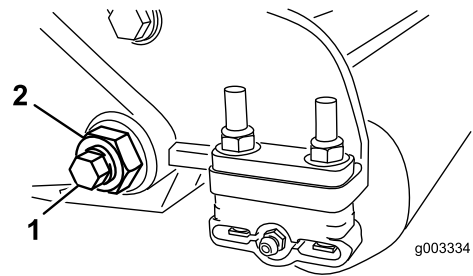
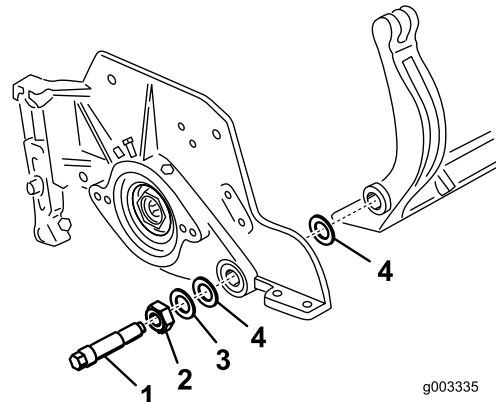

Figure 30
Figure 31
- On each side of the machine, loosen the locknut securing the bedbar bolt (Figure 30).
- Remove each bedbar bolt, allowing the bedbar to be pulled downward and removed from machine bolt (Figure 30). Account for 2 nylon washers and 1 stamped steel washer on each end of the bedbar (Figure 31).
- Place a steel washer outside each of the nylon washers (Figure 31).
Torque the bedbar bolts to 27 to 36 N-m (240 to 320 in-lb). Tighten the locknuts until the outside steel washer stops rotating and end play is removed, but do not overtighten or deflect the side plates. The washers on the inside may have a gap (Figure 31).